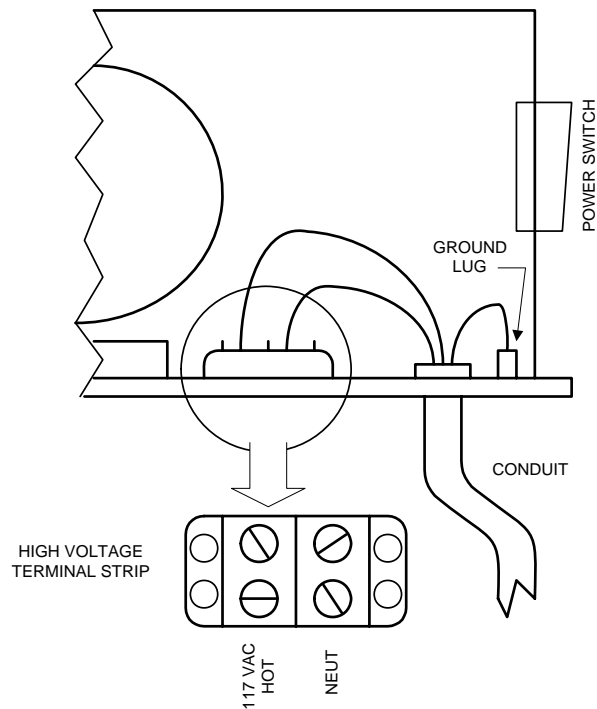

Figure 23
- Route incoming high voltage power through conduit and into the operator as shown in Figure 23.